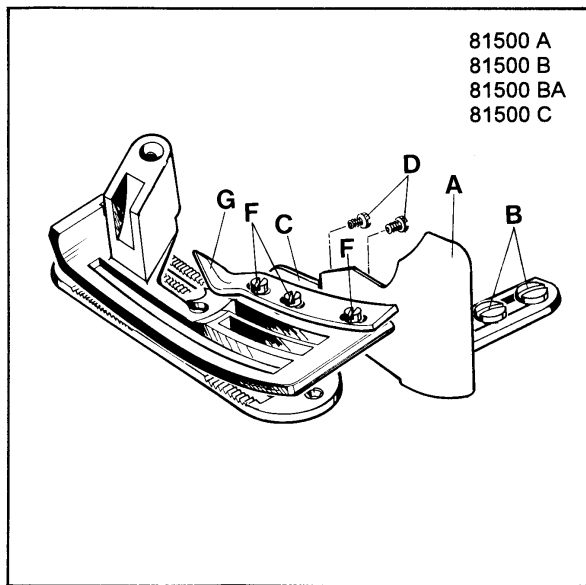

Fig. 6
Typen 81500A, B, B1H, B2, BA, BA1H, BA2 und 81500C, siehe Fig. 6.
Typ 81500E, siehe Fig. 6 A.
Set the edge guide (A, Figs. 6 and 6 A) laterally as close as possible to the presser foot, without contacting it. When loosening the two screws (B), the edge guide (A) can be moved laterally. Retighten screws.
Set the stitch tongue (C, Figs. 6 and 6 A) so that the rear part of the thread loop slides over the tongue onto the fabric, while the front part of the loop is retained until the needle securely has entered the loop. After loosening screws (D) the stitch tongue (C) can be moved to the front or to the rear. When moving the stitch tongue to the rear, the front part of the thread loop is retained longer. Retighten screws (D).